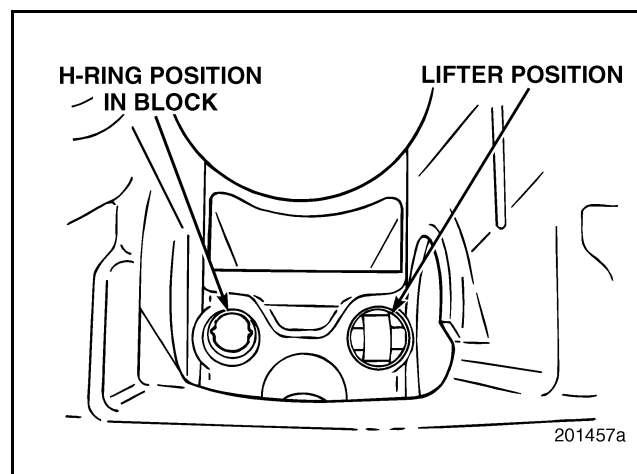

Figure 453 — Installed Valve Lifter
2. Trial-fit a lifter back into its original lifter bore by aligning the lifter flats with the H-ring flats as shown in Figure 453. Use only light finger pressure when installing the lifters. Verify that the lifter has complete freedom of movement in the bore and H-ring in both the upward and downward directions. When the lifter is seated, it should be possible to rotate it slightly from left to right. If the lifter is sticky or tight, or if additional force was required to install the lifter, proceed as follows: